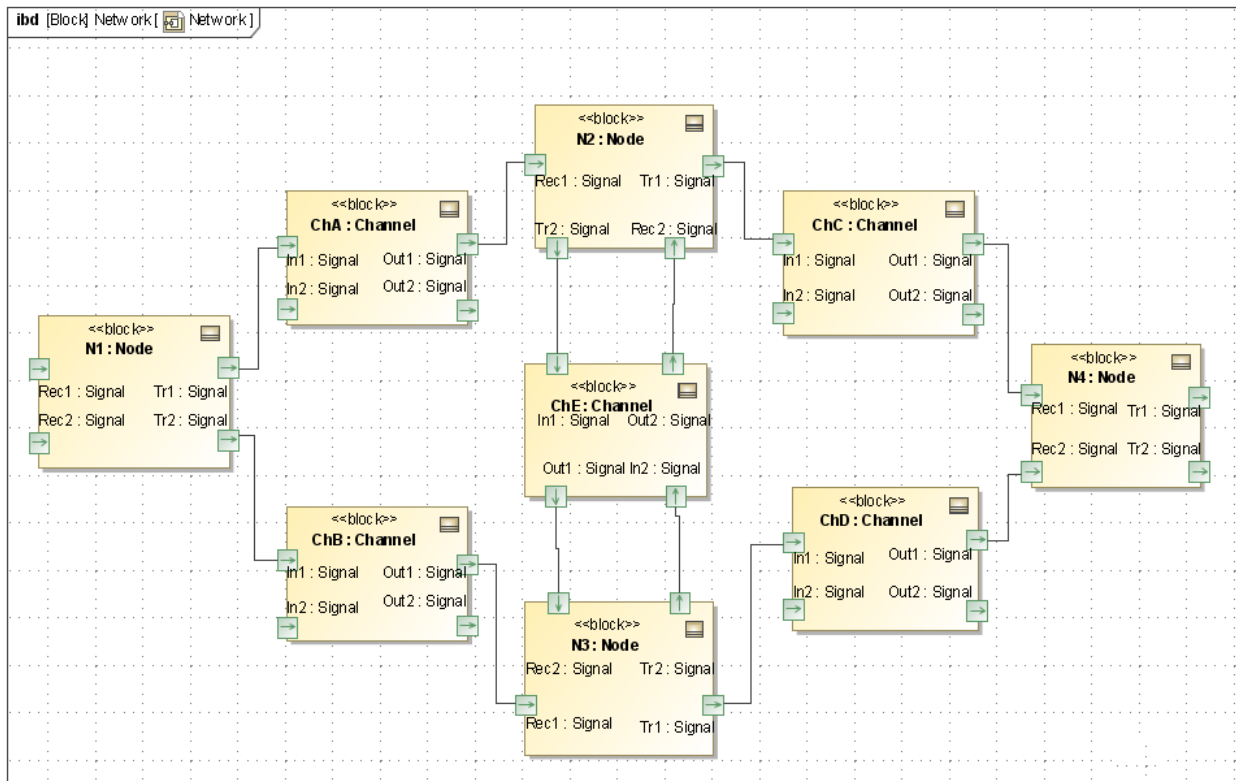

Figure 5.6 CommNetwork Internal Block Diagram
- i. Each channel has four flowports, two for input message traffic and two for output (see Channel blocks in Figure 5.6). To create a flowport
- i. Drag all nine part properties in Network (four node and five channels) into the diagram and arrange as shown in Figure 5.6.
- ii. Click on each block and use the Display Ports icon on the floating toolbar (Figure 5.5a) to show the ports. Arrange the ports as shown in Figure 5.6.
- iii. Click on a port and use the Connector icon on the floating toolbar (Figure 5.5b) to create a connector, which can be dragged to the matching port on another block. Arrange the connectors as shown in Figure 5.6.